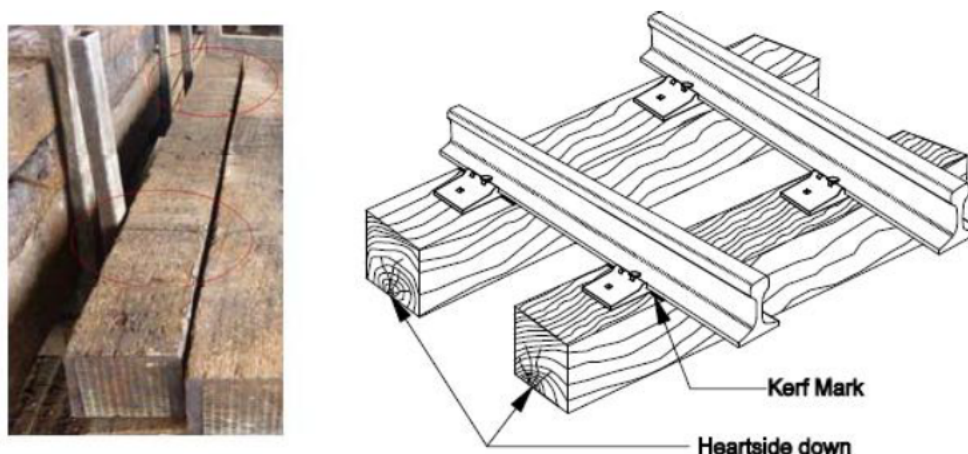

Figure 3.1.2-A
8. On wood tie applications install ties with “sap side” kerf marks (1/8” grooves cut into the top of the tie) facing UP. This places the tie’s hardest surface down on the ballast as shown in Figure 3.1.2-A. Different composite ties may have a designated “top” surface, consult the WPD on Composite Tie installation for more information.